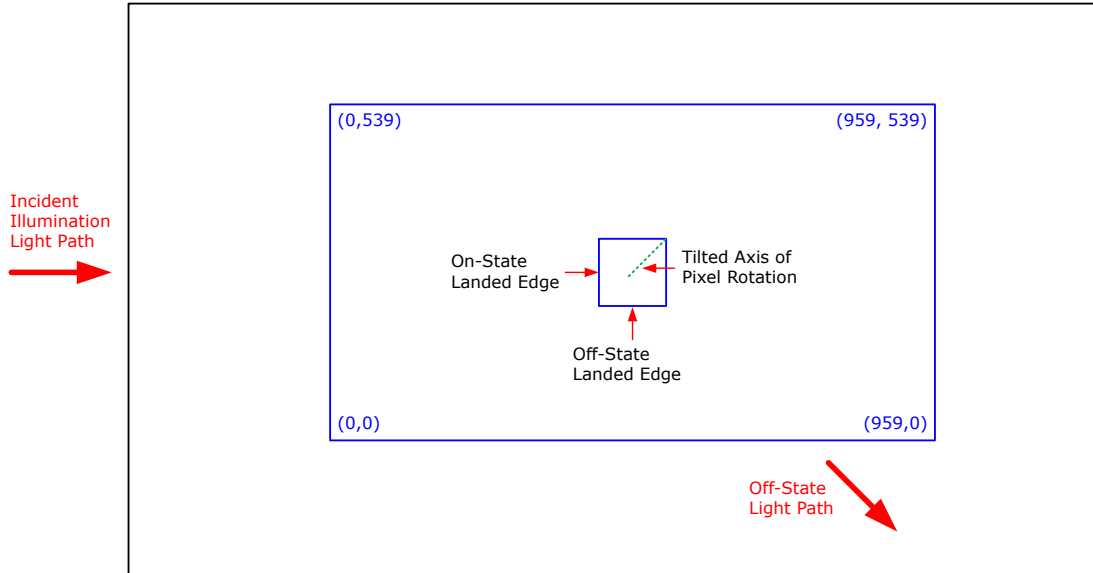

图 6-17. Landed Pixel Orientation and Tilt
- (1) Measured relative to the plane formed by the overall micromirror array.
- (2) Additional variation exists between the micromirror array and the package datums.
- (3) Represents the landed tilt angle variation relative to the nominal landed tilt angle.
- (4) Represents the variation that can occur between any two individual micromirrors, located on the same device or located on different devices.
- (5) For some applications, it is critical to account for the micromirror tilt angle variation in the overall system optical design. With some system optical designs, the micromirror tilt angle variation within a device may result in perceivable non-uniformities in the light field reflected from the micromirror array. With some system optical designs, the micromirror tilt angle variation between devices may result in colorimetry variations, system efficiency variations or system contrast variations.
- (6) When the micromirror array is landed (not parked), the tilt direction of each individual micromirror is dictated by the binary contents of the CMOS memory cell associated with each individual micromirror. A binary value of 1 results in a micromirror landing in the ON state direction. A binary value of 0 results in a micromirror landing in the OFF state direction. See Figure 6-17.
- (7) Micromirror tilt direction is measured as in a typical polar coordinate system: Measuring counter-clockwise from a 0° reference which is aligned with the +X Cartesian axis.
- (8) The time required for a micromirror to nominally transition from one landed state to the opposite landed state.
- (9) The minimum time between successive transitions of a micromirror
- (10) Conditions of Acceptance: All DMD image quality returns will be evaluated using the following projected image test conditions: